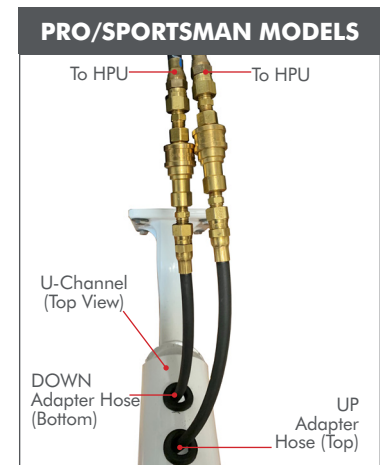

Figure 4
STEP 3: Cut the (2) Zip Ties with a knife or scissors. DO NOT cut through hoses. **FIG 4**